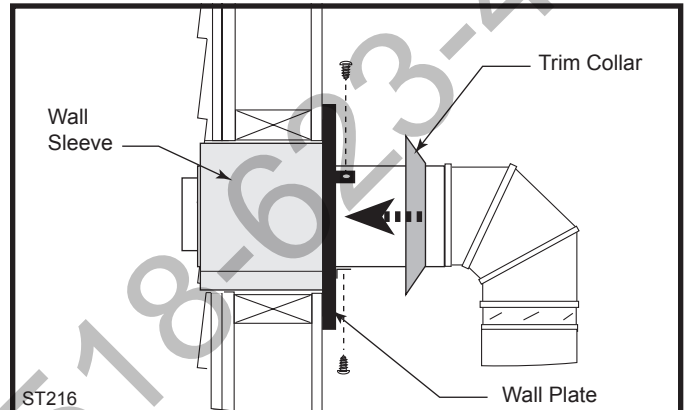

**Fig. 24** Determine the vertical pipe length.
**4. For Vermont Castings Group Vent Pipe only:** If necessary, measure to determine the vertical length (X) of pipe required from the adapter pipe to the wall cutout centerline, including a 2" (51mm) overlap at the joint. (Fig. 24) use a hacksaw or tin snips to trim the pipe as needed.